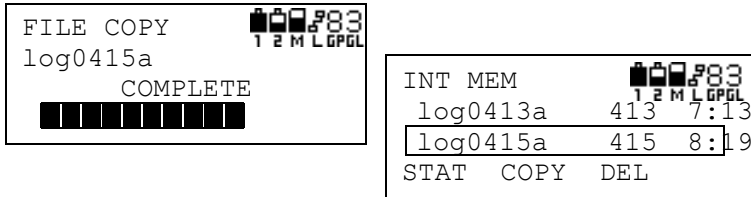

Figure 3-102. Copy Complete, Press Key to Display Internal Memory Screen
- When copying completes, press any key to return to the internal memory screen (Figure 3-102).